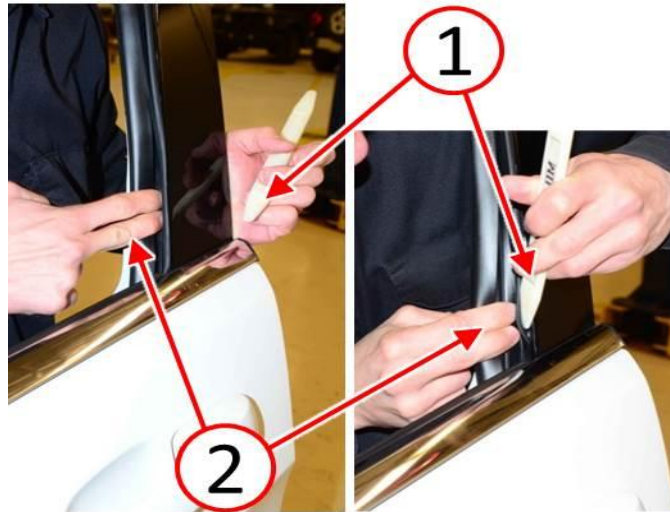

Fig. 9 Seat Door Glass Run Seal Into Channel
NOTE: Pressing fingers (2) into the glass run seal groove allows for feel of when the seal is fully seated into the glass run channel (Fig. 9).
7. Use a fiber trim stick (1) and fingers (2) in order to fully seat the door glass run seal into the door glass run channel (Fig. 9).